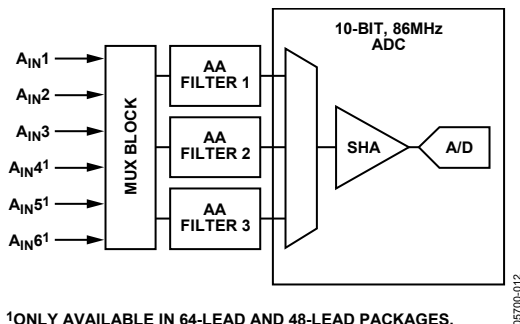
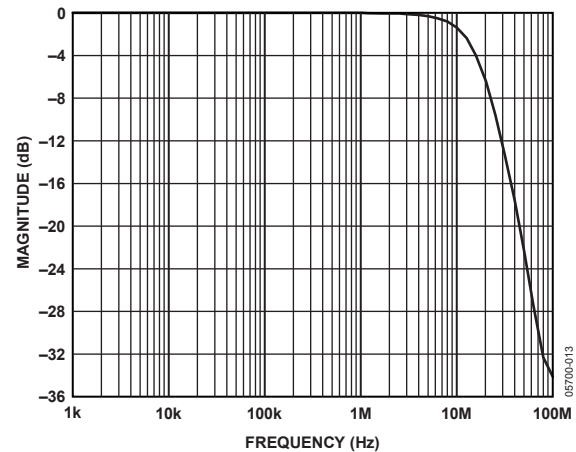
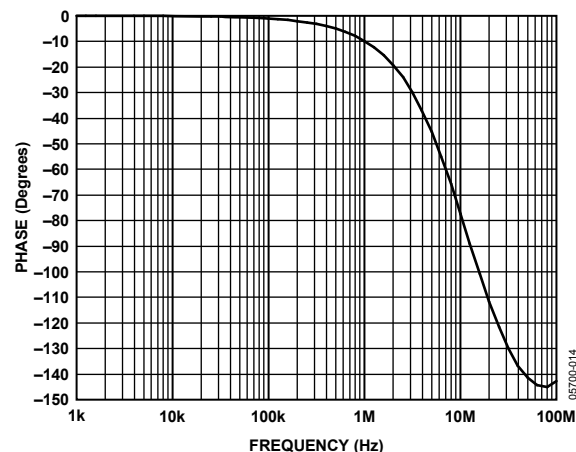

Figure 17. Antialias Filter Configuration
Figure 18. Antialiasing Filter Magnitude Response
Figure 19. Antialiasing Filter Phase Response
The ADV7180 has optional on-chip antialiasing (AA) filters on each of the three channels that are multiplexed to the ADC (see Figure 17). The filters are designed for standard definition video up to 10 MHz bandwidth. Figure 18 and Figure 19 show the filter magnitude and phase characteristics.